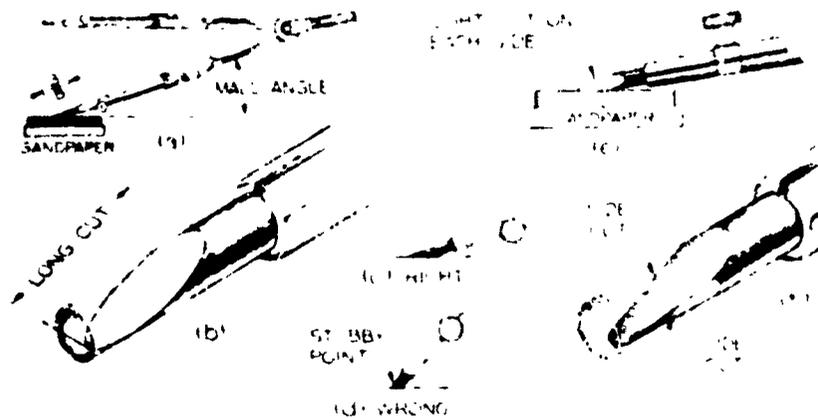

FIGURE 2
1. Extend the lead approximately 1/2" out of the compass and place it at a 30° angle on the sandpaper pad (Figure 2)
2. Move the compass lead back and forth over the sandpaper until it forms a smooth, wedge shaped point on a long cut (Figure 2)
3. Turn the compass lead to each side at a 30° angle on the sandpaper and make smooth side cuts slightly shorter than the long cut on the wedge (Figure 2)